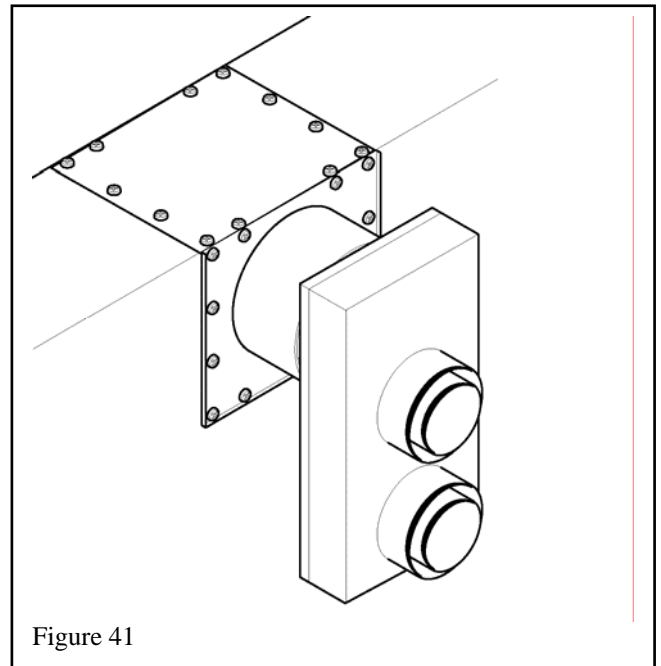

Figure 41
3. Keeping the connector and adapter fully twist-locked, rotate them so that the air inlet collar on the connector is at the bottom. See figure 41.